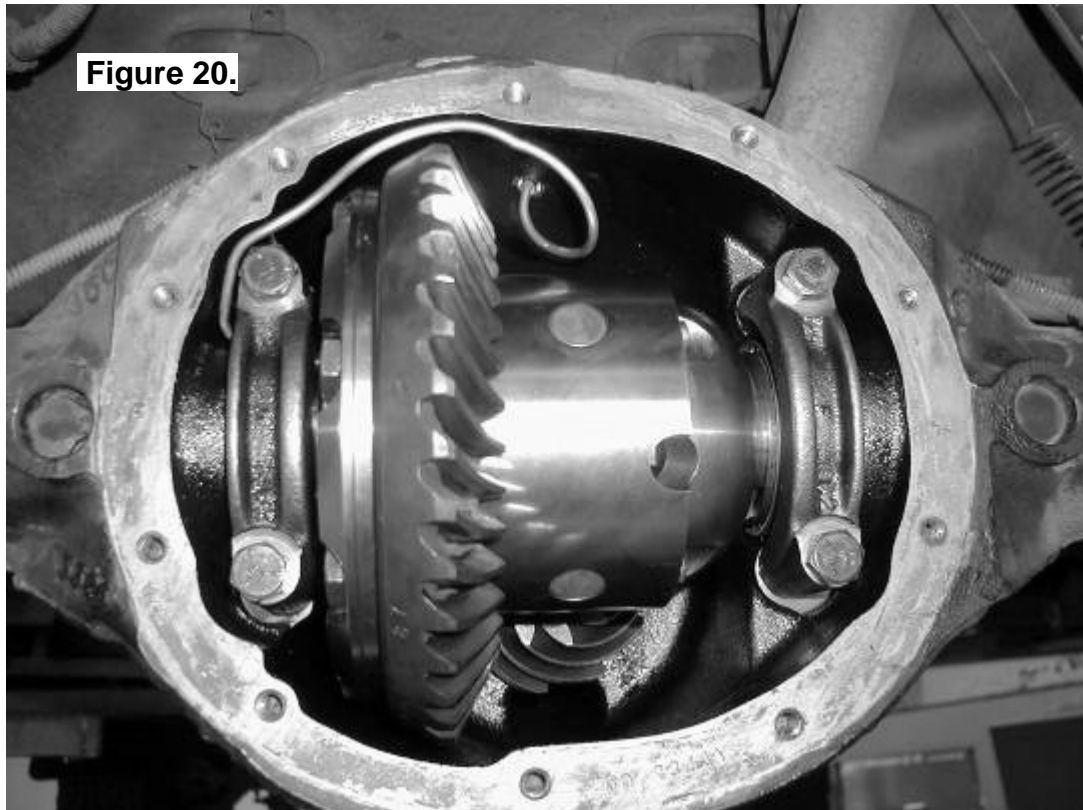

Figure 20.
- ☐ Without using sharp, jagged tools such as pliers (usually your hands are the best tool for this job), gently bend the seal housing tube so that it runs along the inside of the differential housing as shown in Figure 20.